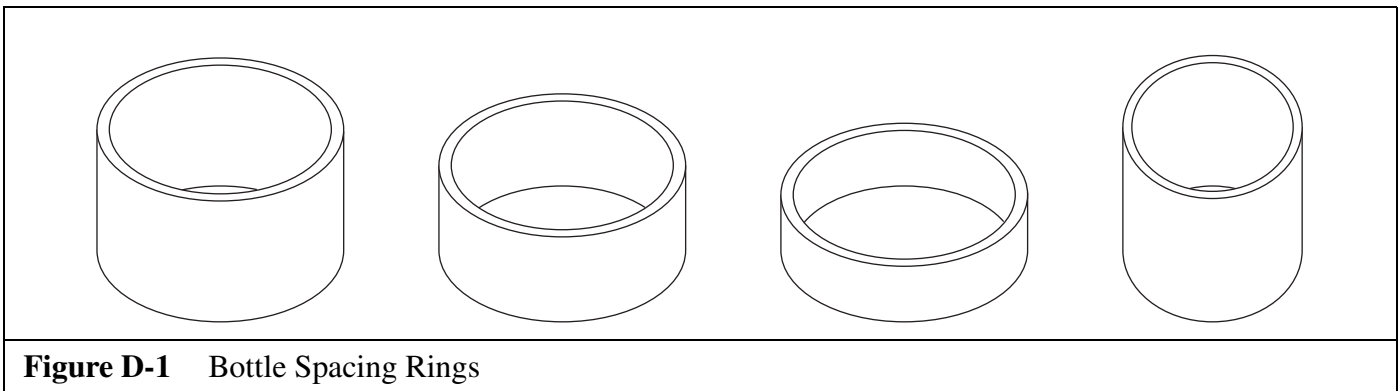

Figure D-1 Bottle Spacing Rings
2. Insert the proper size spacer ring, supplied with your system, into the bottom of the bottle holder to adjust the height of your SCBA bottle (See Figure D-1). Different SCBA bottles have different lengths. For some smaller cylinders, it may be best to turn the large spacer on its side. A proper height adjustment will leave the bottle valve slightly below the rim of the bottle holder.